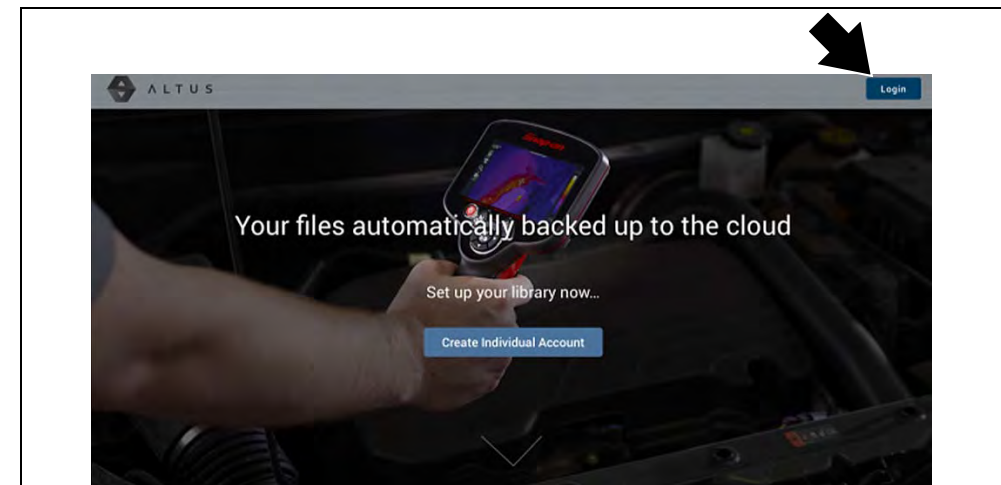

Figure 14-3
2. Select the **Login** icon (Figure 14-3).